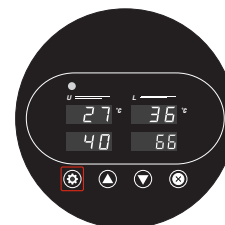
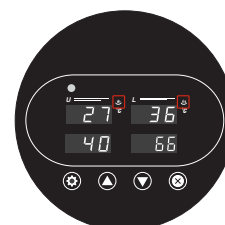

Fig. 9
Fig. 10
9. Press Set ⚙ button once more (Fig. 9) to record all control panel settings. The platens start heating, and the heating icons are now displayed on the screen (Fig. 10).